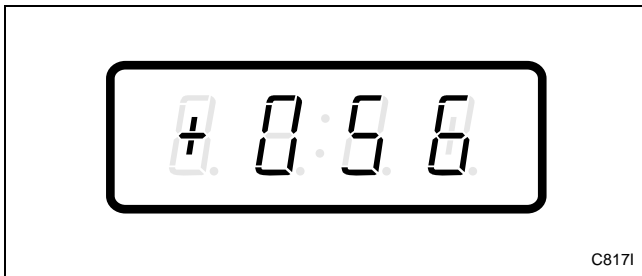

Figure 151
3. Press the DELICATES (+) or the COLD (-) keypad to scroll through the programmable options until “+056” appears in the VFD. Refer to *Figure 151*.